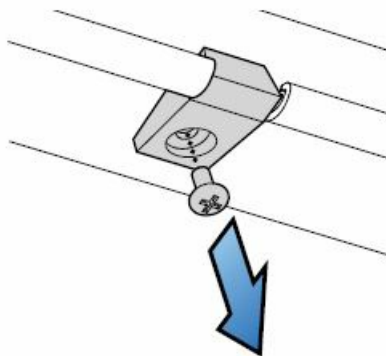
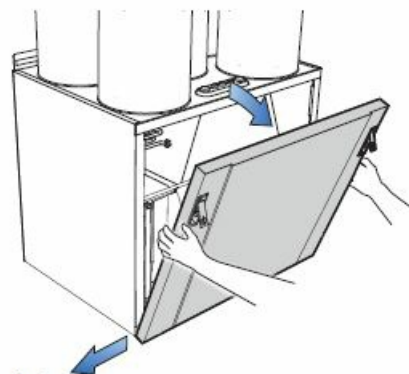

Fig. 2
Fig. 3
- If there is limited space in front of the unit, the lock screw on the underside of the unit can be unscrewed (see Fig. 2) and the door pushed out sideways (see Fig. 3).